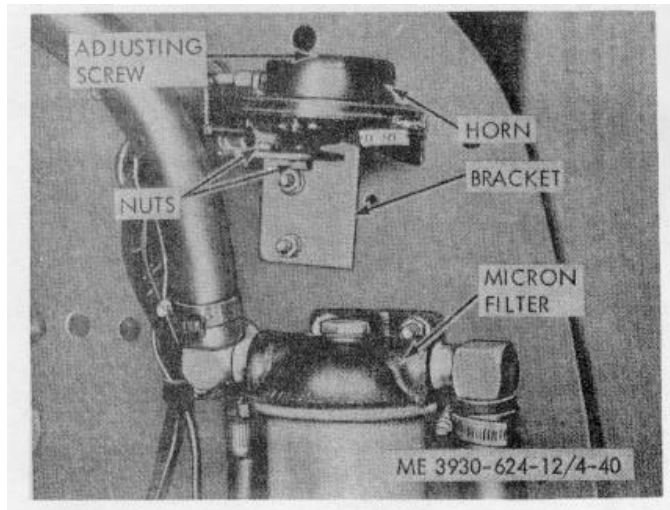

Figure 4-40. Horn mounting and adjusting screw.
(1) Tag and disconnect electrical leads to the horn.
(2) Remove the two nuts and lockwashers securing the horn to the mounting bracket. Remove the horn. Refer to figure 4-40.
(2) If the horn signal is weak and the voltage is normal at the horn terminal, check the volume adjusting screw in horn cover (fig. 4-40). Turn the screw clockwise to increase the volume or counterclockwise to decrease the volume.